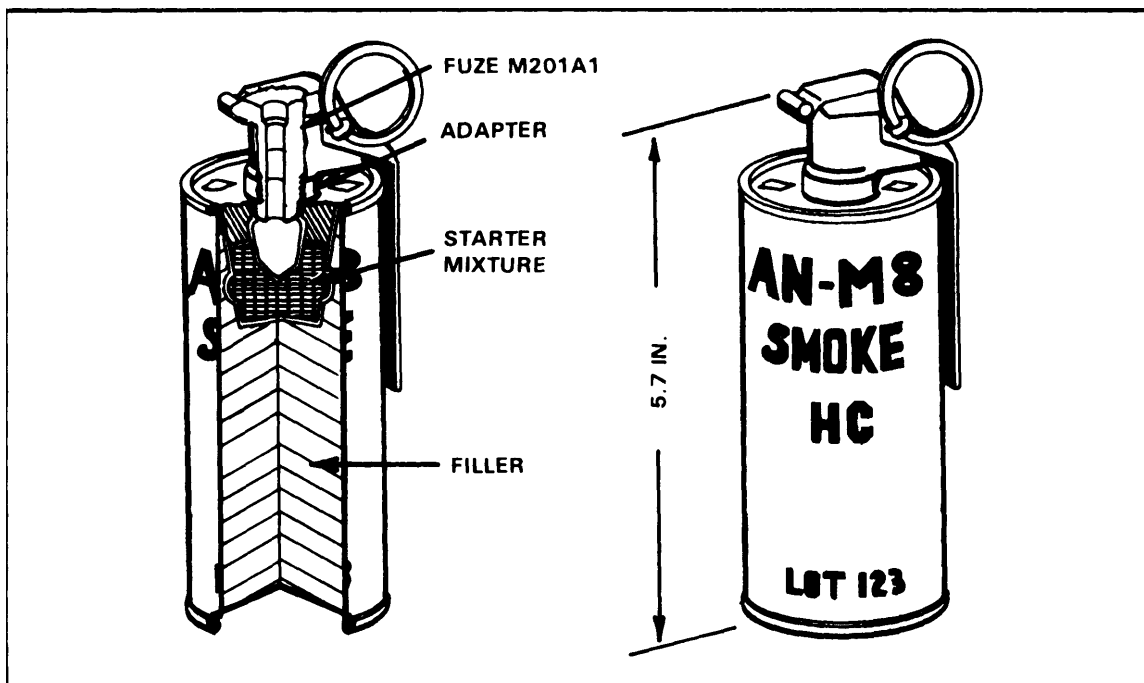

Figure 1-12. AN-M8 HC white smoke grenade.
b. AN-M8 HC White Smoke (Figure 1-12). This grenade is used to produce dense clouds of white smoke for signaling and screening.
- (1) Body -- sheet steel cylinder.
- (2) Filler -- 19 ounces of Type C, HC smoke mixture.
- (3) Fuze -- M201A1.
- (4) Weight -- 24 ounces.
- (5) Safety clip -- no.
- (6) Capabilities -- can be thrown 30 meters by average soldier. The grenade emits a dense cloud of white smoke for 105 to 150 seconds.
- (7) Color/markings -- light green body with black markings and a white top.